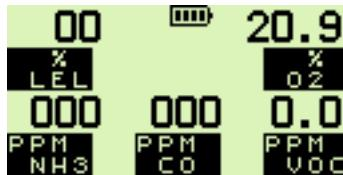

Fig. 2.9 Acknowledge Alarm
To acknowledge the alarm, press the green (RH) button once. This will clear the audible / visual alarm and display a flashing spanner symbol, \*alternating with the faulty sensor zero reading (\*LEL sensor only). An example is shown in Fig. 2.9: